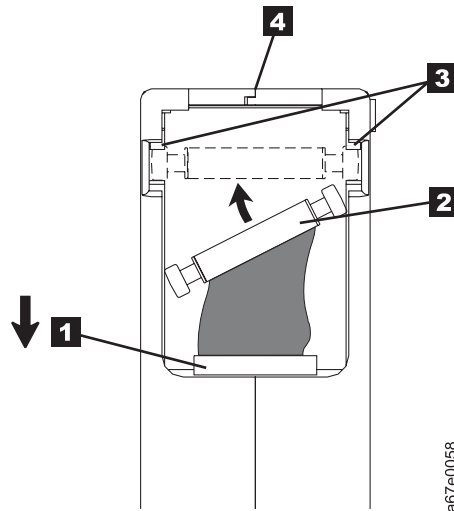

Figure 36. Placing the dislodged leader pin into the correct position.. The cartridge door is open to show the leader pin.
1. Slide open the cartridge door (**1** in Figure 36 on page 133) and locate the leader pin **2**. You may need to shake the cartridge gently to roll the pin toward the door.